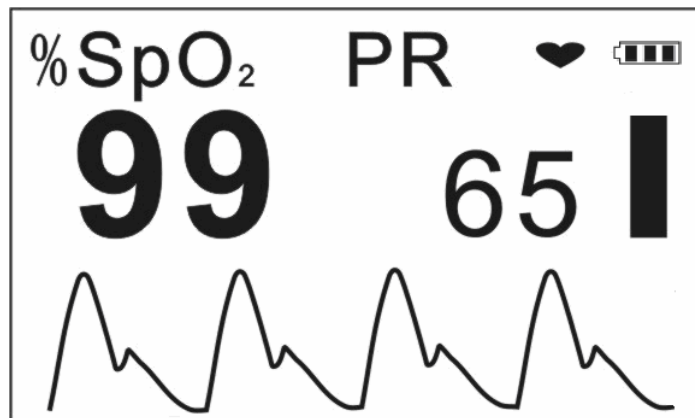
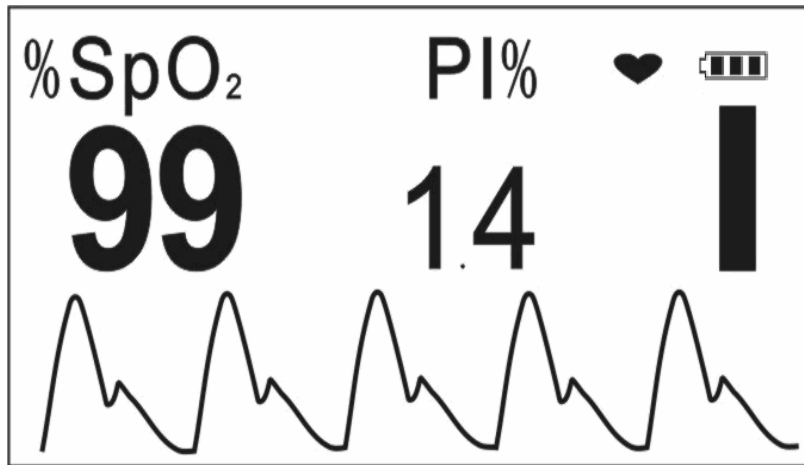
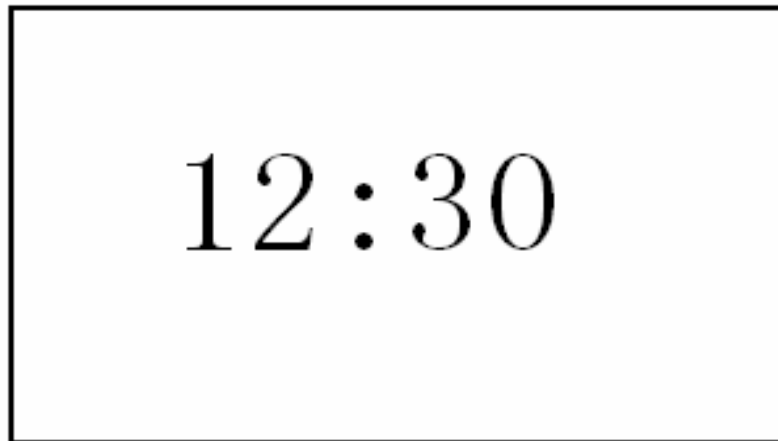

Figure 9A Default Screen
Figure 9C
Figure 9D Real Time Clock
5. The oximeter will automatically start measurement in 2 seconds. Then the default screen will be displayed (Figure 9A). User can read the values and view the waveform from the display screen.
- Short time press “■” key to switch display modes circularly, display screen will be switched among the screens as shown in Figure 9A, Figure 9C and Figure 9D.
- The measurement will start automatically when the finger is inserted into the soft rubber of the sensor, so the data recording (SpO₂ and PR values) starts simultaneously as well. The display is as shown in Figure 9A